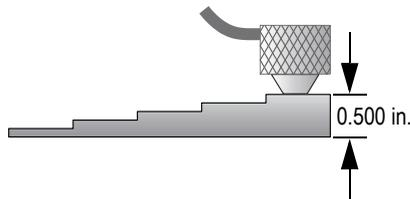

Figure 5-4 Sound velocity calibration on a five-step test block – Thick part
- b) Couple the transducer to the thick part of the test block using moderate to firm pressure (see Figure 5-4 on page 53).